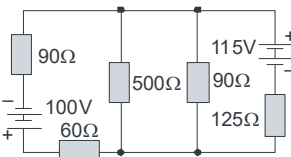

FIG. 1.146
10. Using superposition theorem, determine potential difference across 60Ω resistor in the network shown in fig. 1.146. (Ans. 87.3 V)
13. Using Norton's theorem, determine current in 60Ω resistor of the network shown in fig. 1.146. (Ans. 0.433 A)